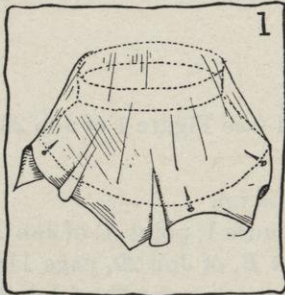

FIG. 1.
1. **Measure the brim to calculate amount of material needed** (see Figure 1 of Job 29, page 118).
- (1) Place the hat in your lap so that the under facing is up.
- (2) Pin the tape measure even with the edgewire (see Figure 1, point *A*, of Job 29, page 118).
- (3) Follow line of brim to headsize (see Figure 1, point *B*, of Job 29, page 118).
- (4) Stretch tape measure right across headsize (see Figure 1, point *C*, of Job 29, page 118).
- (5) Stretch tape measure to edgewire opposite the point where you began, and pin (see Figure 1, point *D*, of Job 29, page 118).
- (6) Write down the final measurement. Call it *F to B* (front to back).
- c. If the brim is to have a **raw edge**, use the measurements written down in Sections 1 *a* (6) and 1 *b* (2) above, **but add 1 inch to them** and jot down the answers. Write *for raw edge* alongside of these measurements.
- d. If brim is to have a **finished edge**, use the measurements that you wrote down after you read Sections 1 a (6) and 1 b (2) (page 141), but **add 2 inches to them** and jot down the answers. Write *for finished edge* alongside of these measurements.
- (1) Use pins on right side to mark off the desired amounts.
- (2) Show your material, marked off, to your teacher to see if it is correct. Ask her if you may work with the whole piece of material. Sometimes it saves material, if you do not cut each facing off separately; then one *swings* into the other as they are cut.
- a. Pin the material at the edgewire on the top of the brim, with the straight of the goods running from front to back and from side to side, without cutting or pinning at the headsize (see Figure 1).